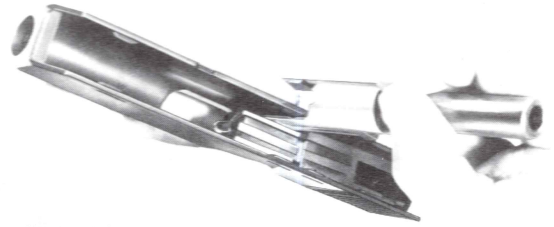

Fig. 5
- To extract the bolt head, use one shank end of the barrel extension to press down between the bolt head and the slide onto the locking catch, until the bolt head springs forward (Fig. 5).